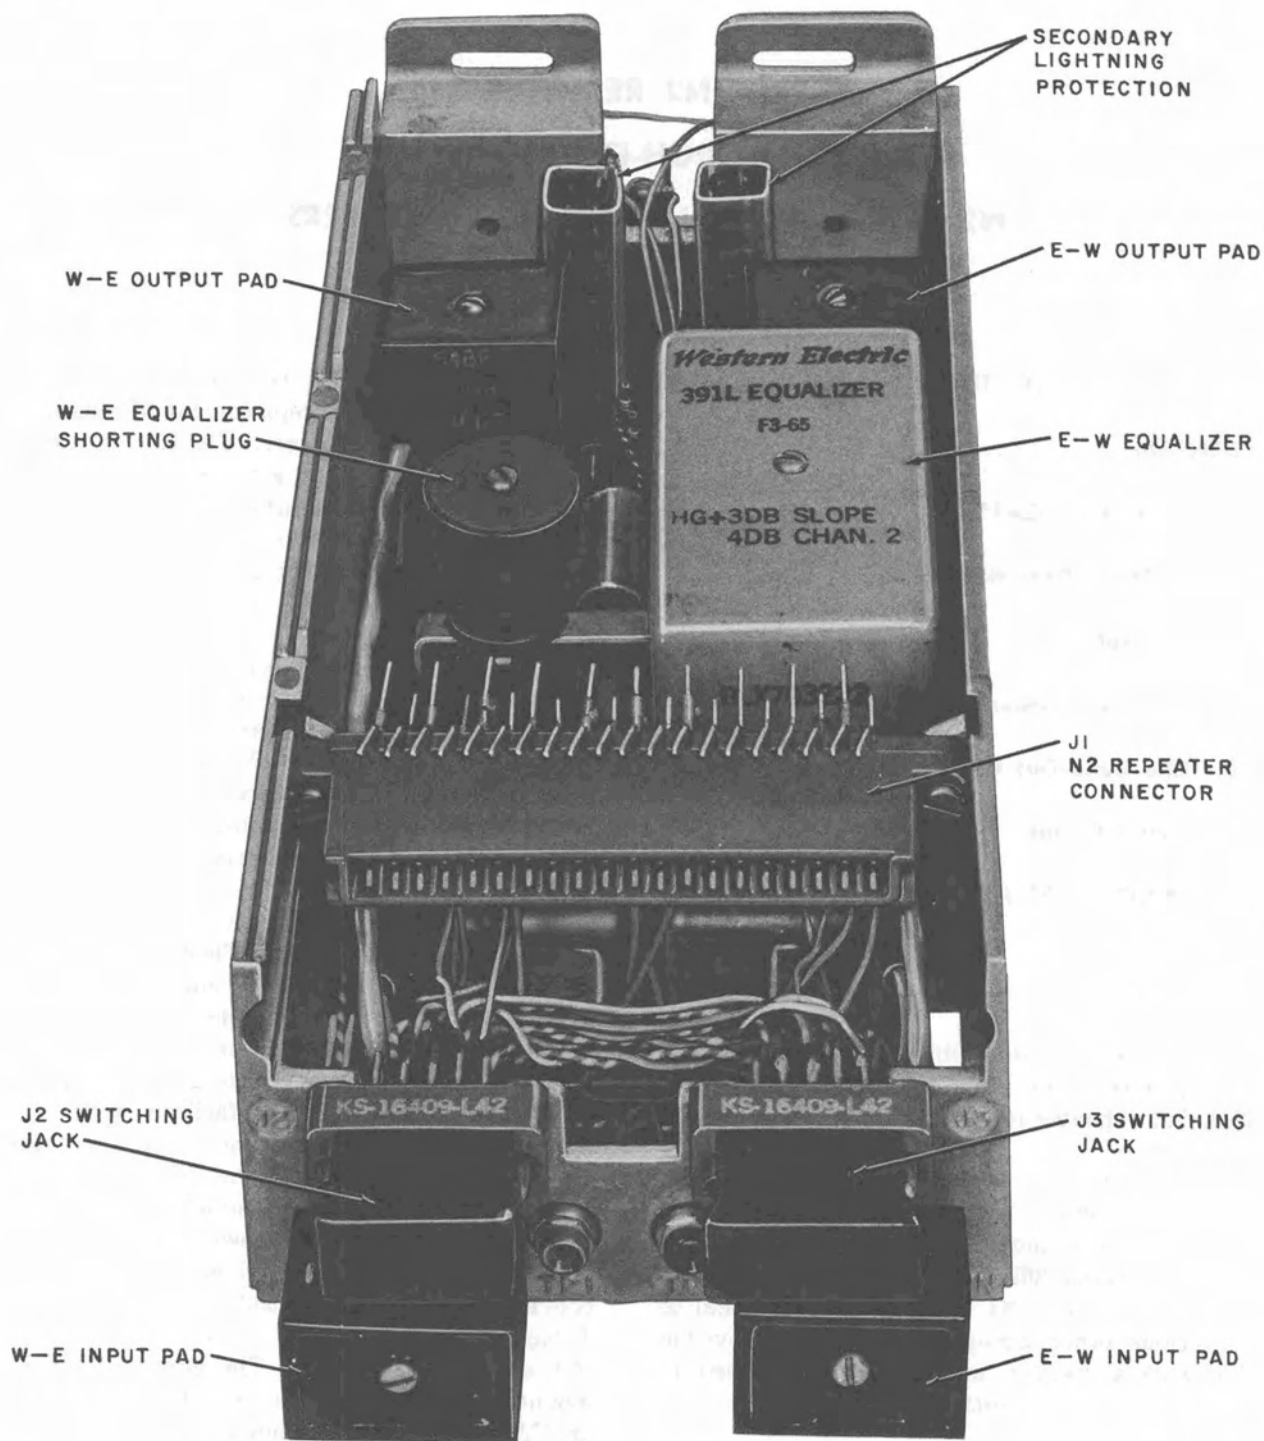

Fig. 1—N2 Repeater to N1A Adapter Assembly
**1.04** Although the N2 repeater-to-N1 and -N1A adapter assemblies are similar electrically and in appearance, they are not interchangeable because of important differences in the power circuits. Structural differences prevent the insertion of the wrong adapter assembly into the N1 or N1A mounting bracket. The N2 repeater-to-N1A adapter assembly is shown in Fig. 1. The adapters contain much the same equipment as that provided in the N2 repeater-mounting shelf. There are four versions each of the -N1 and -N1A adapters, designated lists 1 through 4. Each adapter contains mounting facilities, input transformers, and appropriate power circuits. List 1 and 2 adapters contain provisions for line build-out facilities which include lightning protective equipment, line power-feed circuits, and sockets for the addition of plug-in type span pads and input equalizers. List 3 and 4 adapters are not equipped with line build-out equipment and are used when such equipment is provided in the N2 (J99323) line build-out bay. Table A shows the use of the four versions of -N1 and -N1A adapters. The adapter serves as a mounting for the N2 repeater. The combination of an N2 repeater with an adapter occupies the same space as an N1 or N1A repeater.